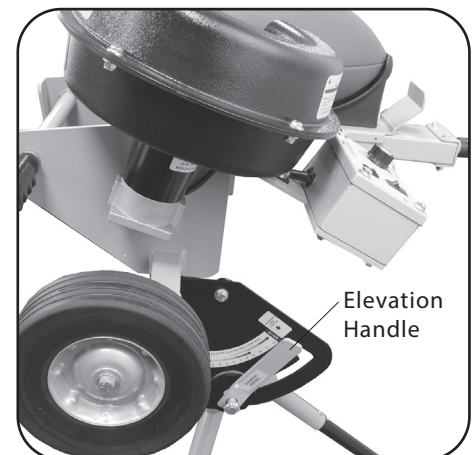

Figure 5 Loosen stand elevation handle.
4. Using the elevation control, tilt the throwing heads up (to high position) and lock into place (See Figure 5). This will facilitate transporting.
- Lift rear leg and roll machine (See Figure 5).